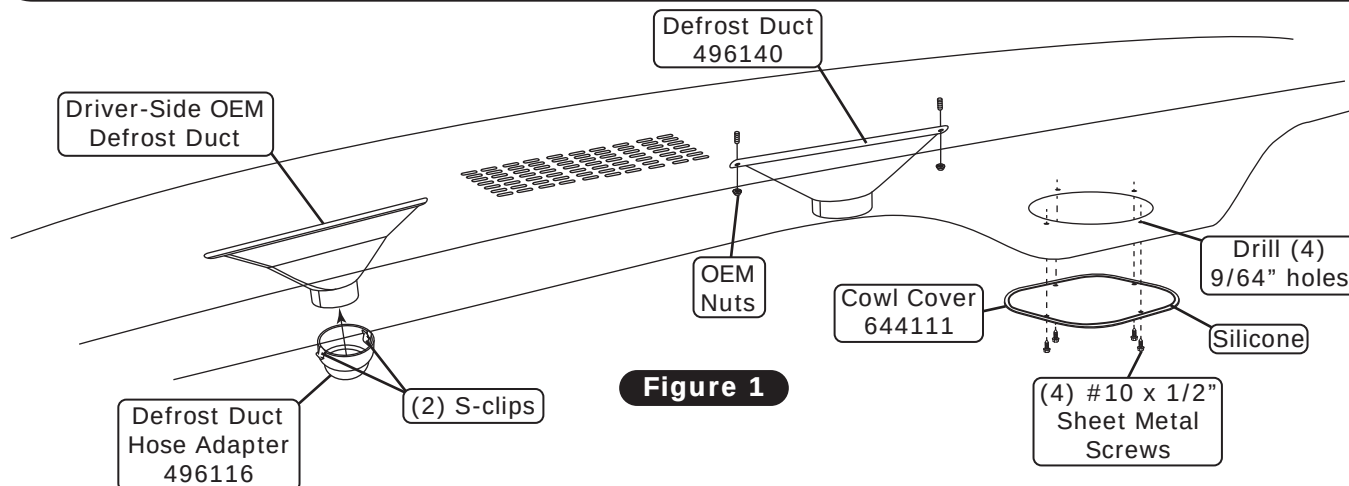

Figure 1
4. Hold the cowl cover under the dash and mark the (4) mounting holes.
5. Drill (4) 9/64" mounting holes under the dash.
6. Apply a 1/4" bead of silicone around the back side of the cowl cover as shown in Figure 1, below.
7. Secure cowl cover to the fresh air hole using (4) #10 x 1/2" sheet metal screws as shown in Figure 1, below.